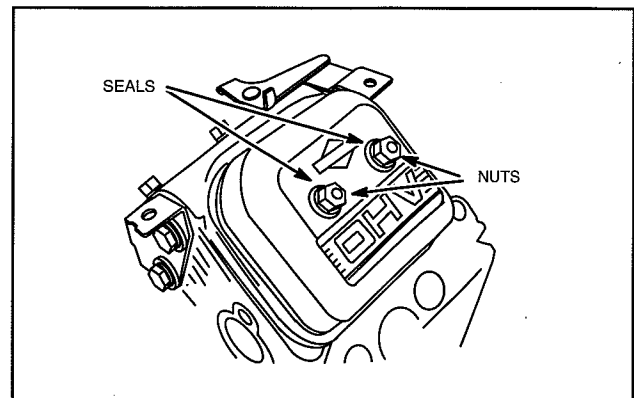

Fig. 33 – Install Push Rods And Valve Covers
3. Install valve covers with new gaskets and valve cover seals, Fig. 33.